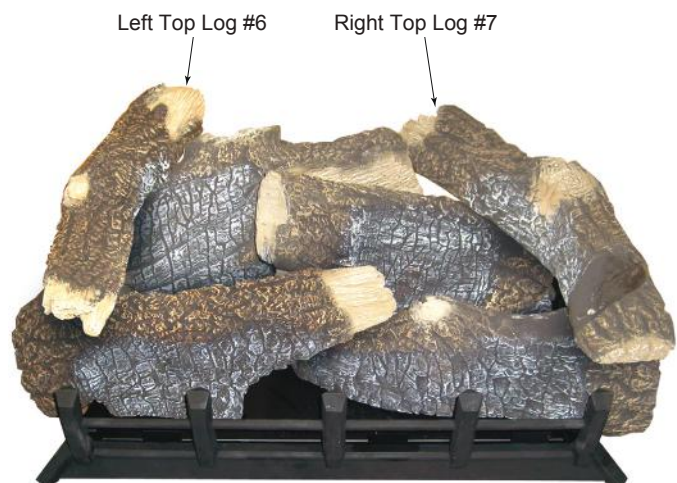

Figure 6.16 - Log #6 & #7 Placement
7. Place right top log (#7) on right rear log (#3) and right front log (#2) using locators on the bottom of log #7 and locators on logs #2 and #3. See Figure 6.16.